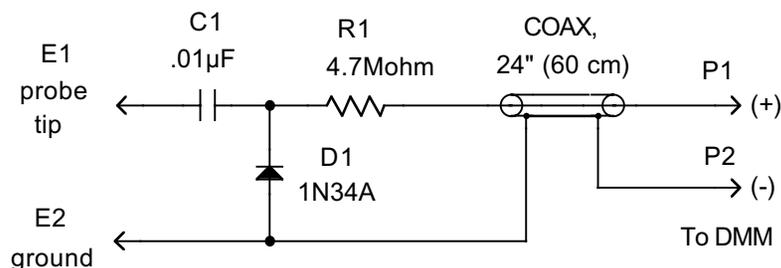

Figure 1
Your K2 kit includes a complete RF probe, including the PC board, coax, and connectors. **The switch spacing tool, which you used in assembling the Front Panel, doubles as the PC board for the probe.** The RF probe (Figure 1) converts RF signals to DC so they can be measured using a DMM. The DC readings on your DMM will be approximately equal to the signal voltage in  $V_{rms}$  (root-mean-square).
4. If you don't have an RF probe, you can build the one from Figure 1.